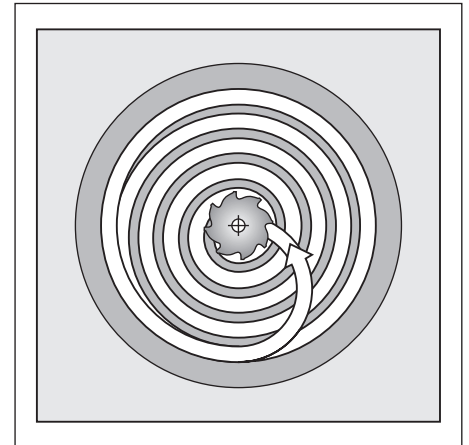

Fig. 8.11: Cutter path for roughing-out
- The cutter subsequently follows a spiral path (shown in figure 8.11) at the programmed feed rate. The stepover factor is determined by the value k (see G75/G76 POCKET MILLING, Calculations).